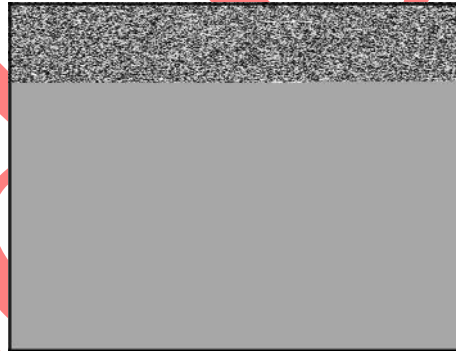

Figure 27
2. Woodruff key (B) can be removed, if required.
3. Remove screw (A, Figure 27) from counterweight.
4. Remove PTO counterweight (B), dowel pin (C), and link (D) from crankshaft.
5. Remove crankshaft from magneto counterweight (E).